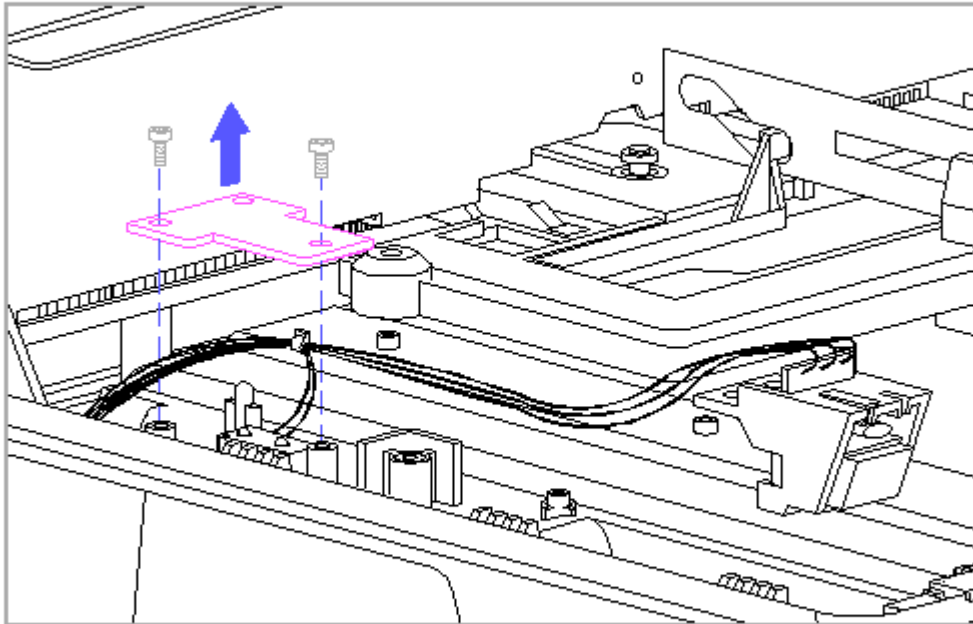

Figure 9-47. Removing the Keylock Plate
6. Remove the two screws that attach the metal keylock plate to the top cover and remove the keylock plate (Figure 9-47).